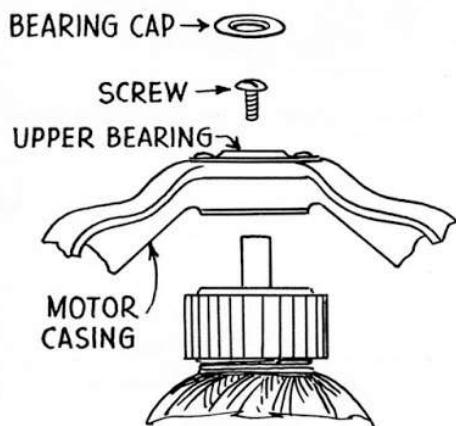

FIG. 120—Upper bearing arrangement
- b. On Models 575, 700 and 725, the upper bearing is a part of the motor casing and should not be removed. To free the armature, however, lift out with a knife blade the brass bearing cap pressed into place above the upper bearing, and then remove the screw from top of armature shaft. Figure 120.